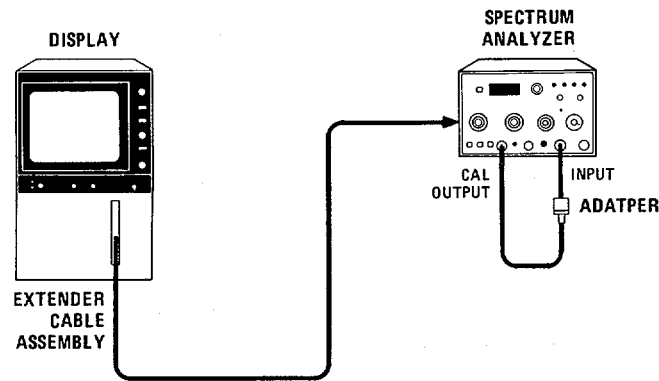

Figure 5-6. Crystal and LC Bandwidth Filter Adjustment Test Setup
- 2. Connect equipment as shown in Figure 5-6.